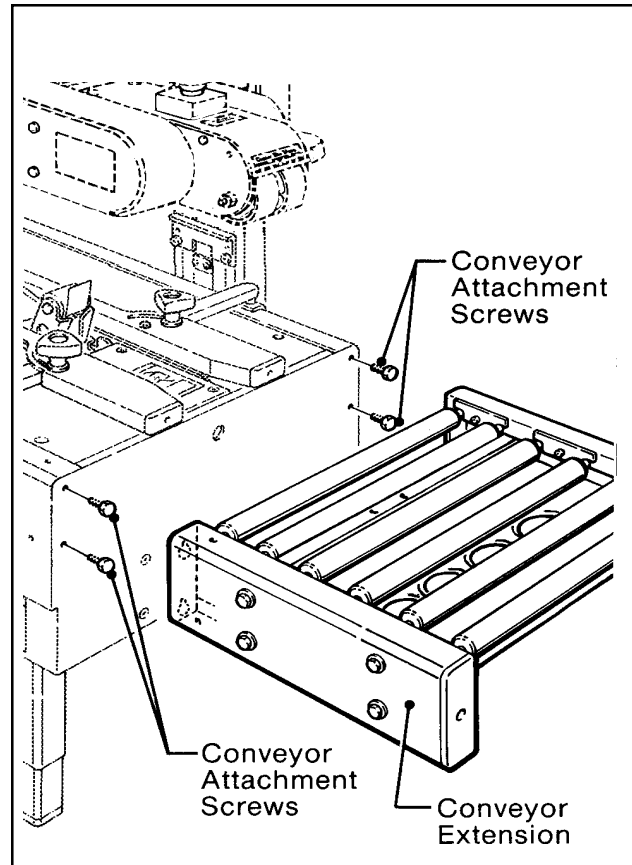

Figure 1 – Conveyor Extension Installation
3. To attach the conveyor extension, refer to Figure 1, and locate four screw holes on the end of the case sealer frame.